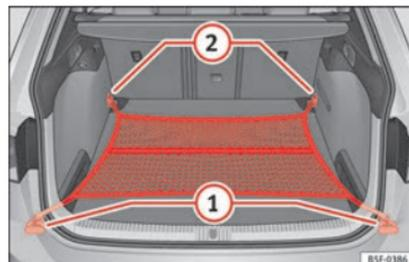

Fig. 178 In the luggage compartment: net bag hooked up at floor level (LEON ST model).
- As applicable, lift the front fastening rings »» Fig. 178 ②.
- Secure the net hooks to the fastening rings ② »» ⚠. The bag zip should be facing upwards.
- Secure the net hooks to the fastening rings ①.